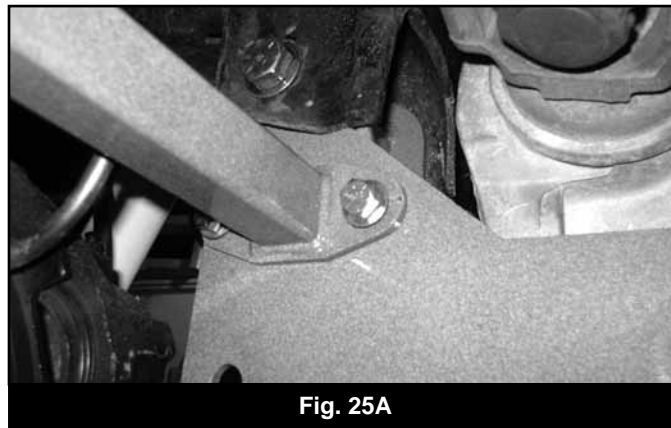
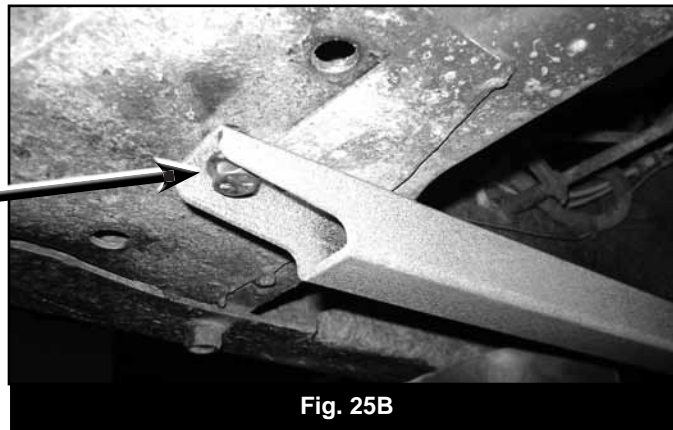

Fig. 25A
Fig. 25B
45. Attach the new supplied compression struts to the rear crossmember. Position the struts so the opposite end sets flat to the transmission crossmember. (Fig 25B) Fasten the compression struts to the rear crossmember with 3/8" x 1-1/4" bolts, washers, and nuts. Snug hardware so the compression struts are squared up to the back of the crossmember. (Fig 25A)
46. Position the compression strut to the transmission crossmember. Mark the holes on the crossmember for drilling. Note: Some vehicles may have a transfer case skid plate mounting off of the transmission crossmember that may interfere with the rear strut mount. If this is the case remove the skid plate. It can either be modified to clear the new mount or left off. (Fig 25B)